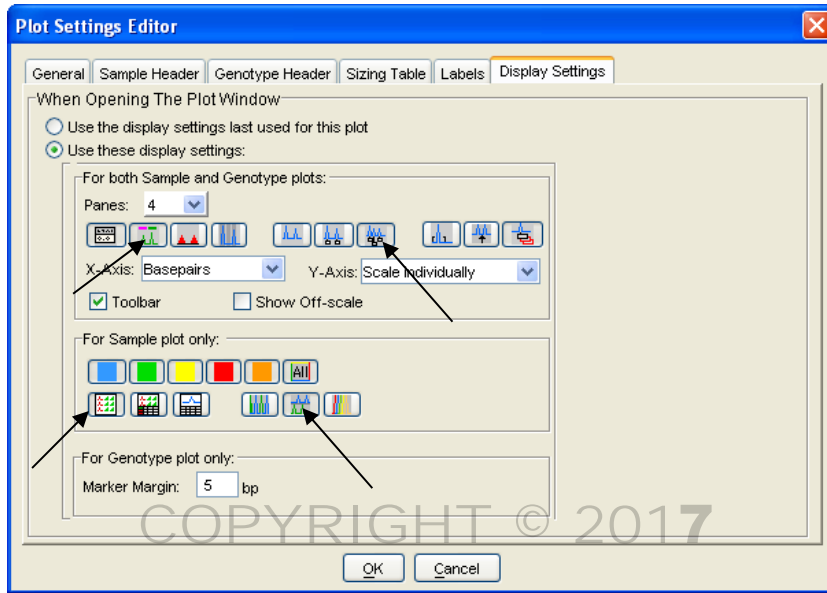

Figure 21. Plot Settings Editor: Display Settings. The arrows indicate the icons that must be clicked.
- 7.3.1 Note that many of the settings in Figure 21 are difficult to discern from the figure because they are toggle switches. The icons to which an arrow is pointing must be clicked (once) for the appropriate settings. The number of panes may be set at the analyst’s discretion, but this is typically 2.